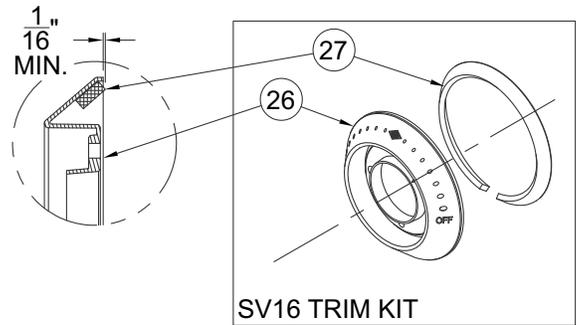

FIGURE 11
- A. Attach **escutcheon gasket 27** to the back of **Tri-Lever handle escutcheon 26** by removing adhesive protection film and attaching as shown **Figure 11**.